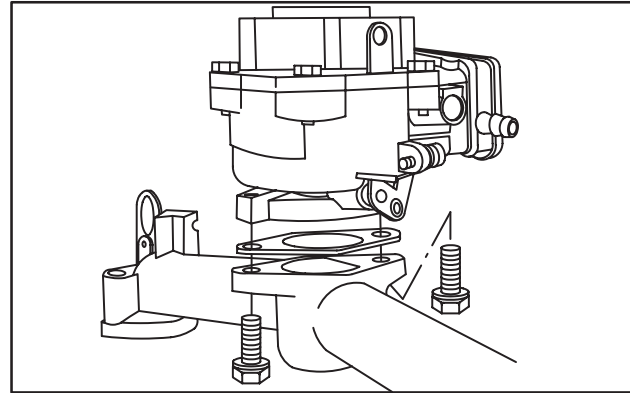

Fig. 10 – Remove Carburetor
4. Remove carburetor from intake manifold, Fig. 10.